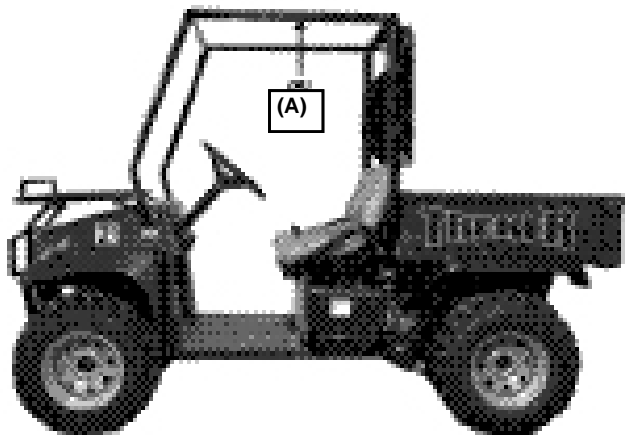

Figure 1
2. Start at top of side closure and apply adhesive Velcro strips to underside of cab frame as shown in Figure 1 at location (A). Be sure to position top notches so they align with brackets for roof.